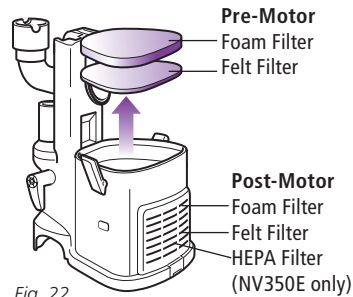

Fig. 22
- Pull the 2 filters out from the top of the motor base. (Fig. 22)